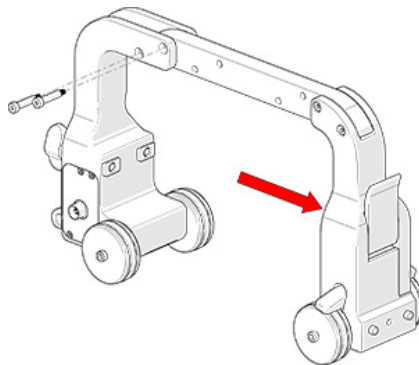

Figure 3-4 Align screw holes
2. With the two shoulder screws removed, position the two halves of the corrosion link further apart and align the screw holes and insert the shoulder screws (see Figure 3-4 on page 46).